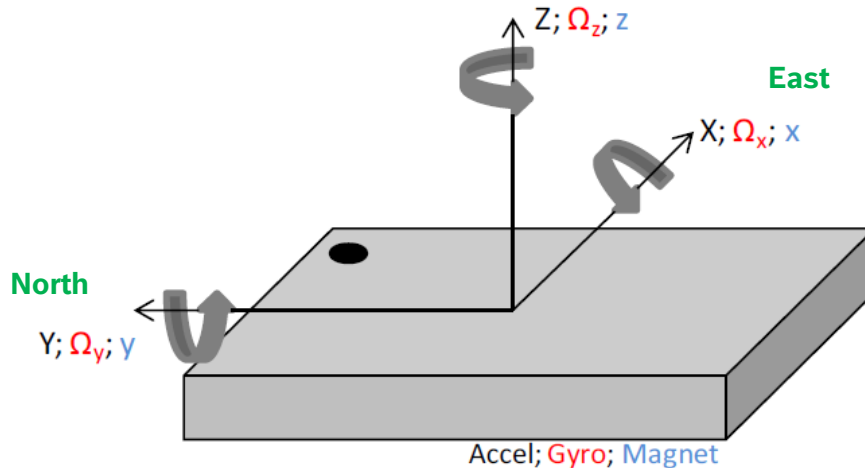

Figure 3 BSX Android definition for Euler angles
Bosch Sensortec BSX sensor fusion uses Android definition for Euler angles by default. The Android rotation vector definition can be found at [http://developer.android.com/guide/topics/sensors/sensors\\_motion.html](http://developer.android.com/guide/topics/sensors/sensors_motion.html) with X axis pointing to East, Y axis to earth magnetic North and Z axis to the sky as shown in Figure 3.
- **Heading:** rotation around Z axis [ $0^\circ \leq \text{heading} < 360^\circ$ ].  $0^\circ$  = North,  $90^\circ$  = East,  $180^\circ$  = South,  $270^\circ$  = West. The heading value increases when rotate around Z axis clockwise from top view of Figure 3.